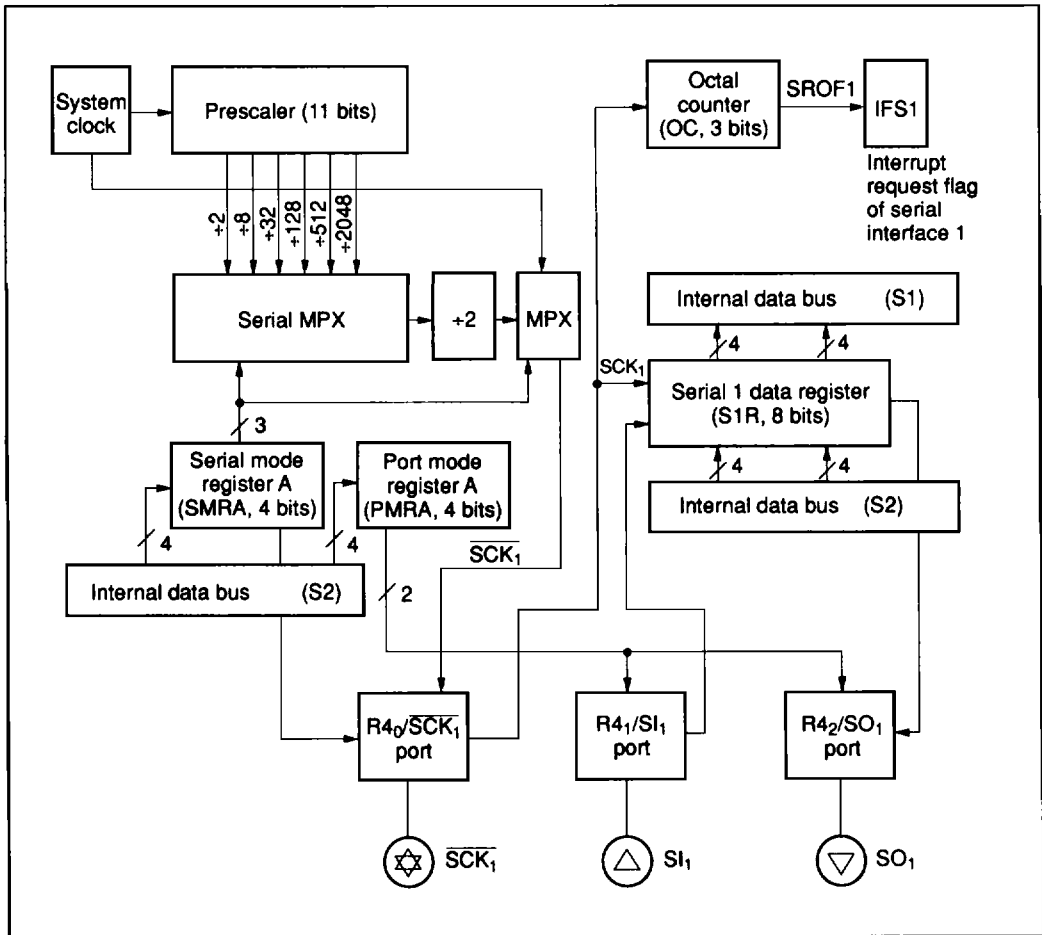

Figure 32 Serial Interface 1 Block Diagram
**Serial Interface 1:** Used to serially transmit and receive 8-bit data. It consists of serial 1 data register (S1R), serial mode register A (SMRA), port mode register A (PMRA), an octal counter, and a multiplexer as shown in figure 32. The  $R4_0/SCK_1$  pin and the transmit clock are controlled by writing data to SMRA. The transmit clock shifts the contents of S1R, which can be read and written to by